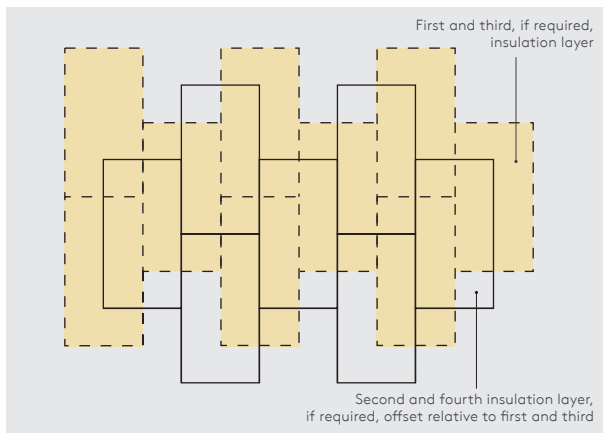

Figure 5 - Offsetting of Multiple Insulation Layers
- If two or more layers of insulation are required, they should be horizontally offset relative to each other so that, as far as possible, the board joints in any two adjacent layers do not coincide with each other (see Figure 5).